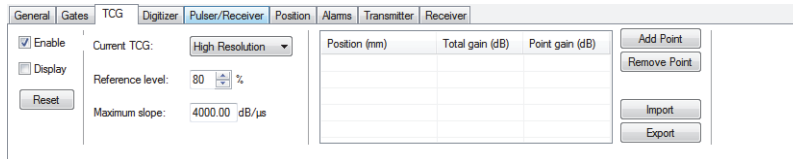

Figure 4-29 TCG tab of the UT Settings dialog box
- b) In the **UT Settings** dialog box, click the **TCG** tab, and then select the **Enable** check box (Figure 4-29 on page 126).